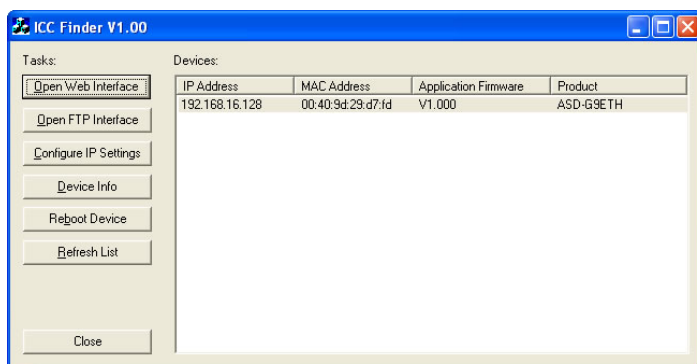

Figure 5: ICC Finder Discovery Utility
3. The discovery utility scans the network for ICC devices and then lists each device's **IP Address**, **MAC Address**, **Firmware Version** and **Product ID**. Identify your device by its MAC address (printed on a label on the top of the Ethernet network jack). Refer to Figure 5.
The “ICC Finder” utility is a simple Windows PC program (just a single .exe file, no installations, DLL’s etc.), which when executed discovers all ICC communication interfaces on the current Ethernet subnet, regardless of whether or not their network parameters are currently compatible with the subnet upon which they reside. Refer to Figure 5 on page 19.